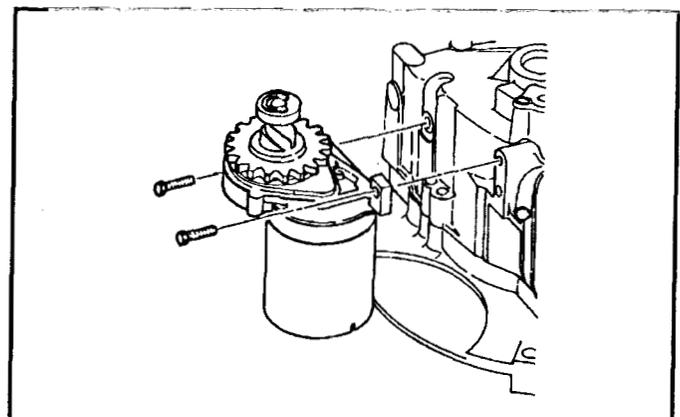

Figure 96
1. Install the electric starter (if equipped) with two 3/8" hex washer head screws. Torque the screws to 85 in lbs (9.5 Nm). See Figure 96.